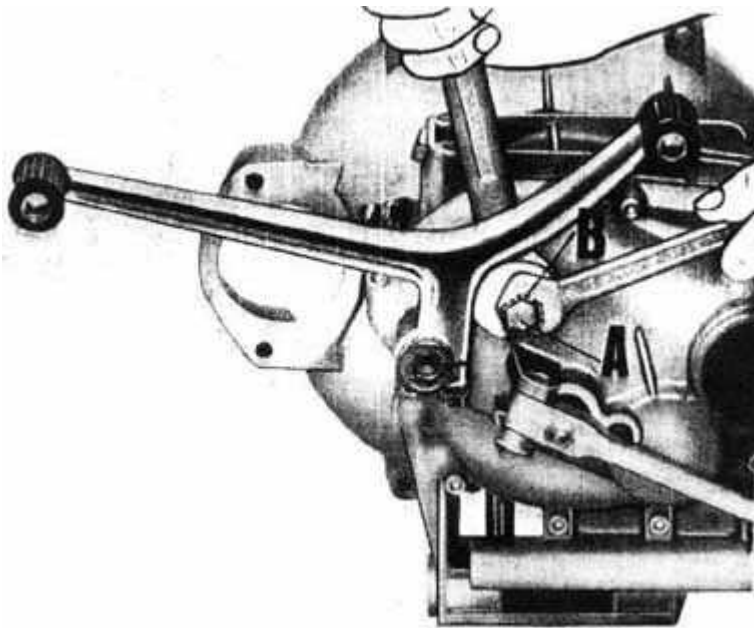

Fig. 35
**Checking the gear operating mechanism** (See fig. 35) [\[return to index\]](#)
screwing in or out the eccentric A in fig. 35 and find the position where it is felt that by changing up and down all gears engage smoothly and the free position is easily selected.